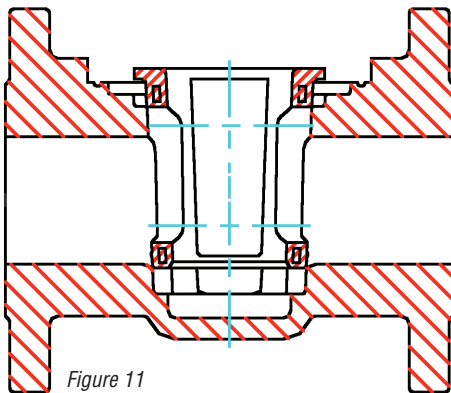

Figure 11
**! WARNING: Sleeve port must be aligned with body port** (see Figure 11).